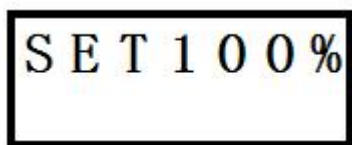

Fig.38
① Invoke the menu, navigate to the "SET100%" and select it. The display appears as shown in Figure 38;
to the menu browsing state, and the screen appears as shown in Figure 38.